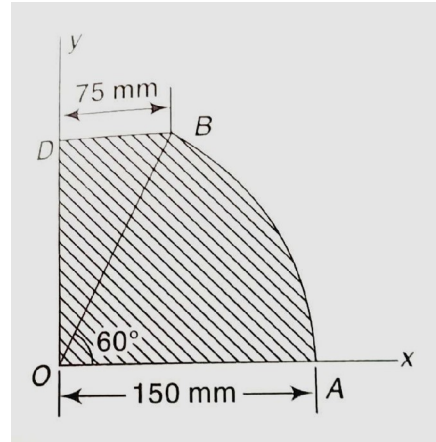

Figure 3.9
9. Locate the centroid of the shaded area OADB shown in Figure 3.9.